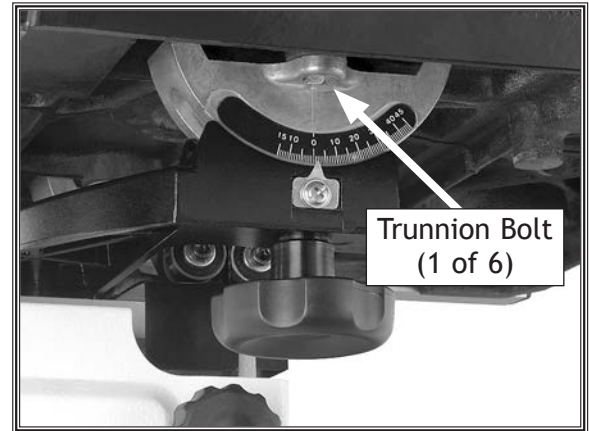

Figure 60. Location of trunnion bolt.
2. Loosen the six trunnion bolts that secure the table (see **Figure 60**). Shift the table to compensate for the difference between the cut edge of the workpiece and the mark you made in **Step 1**.